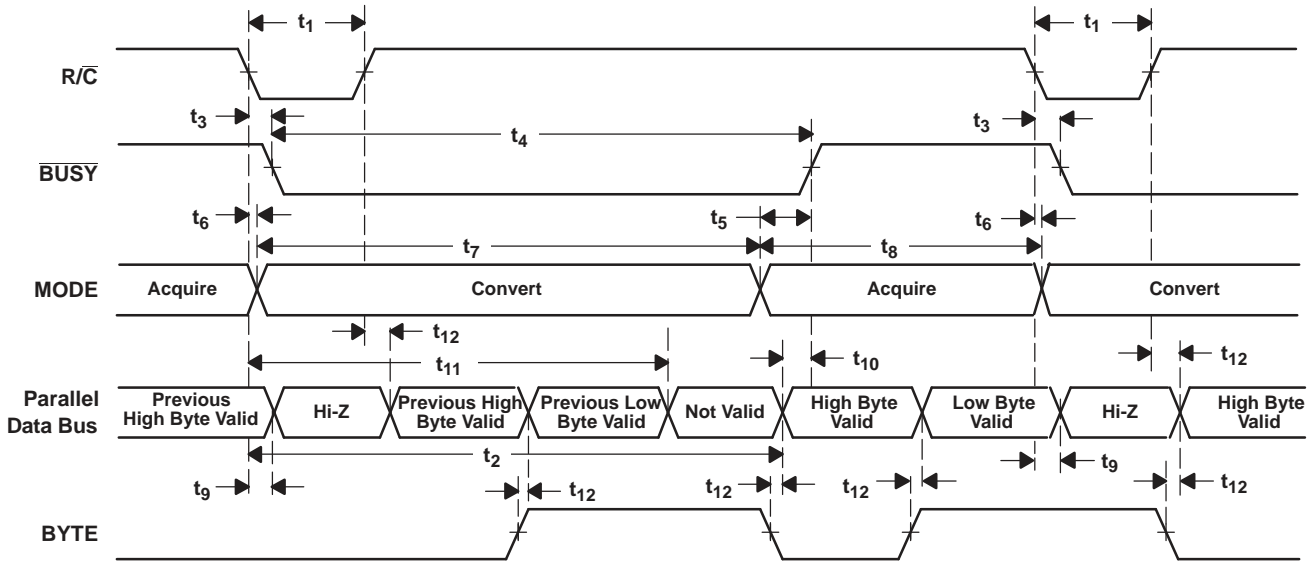
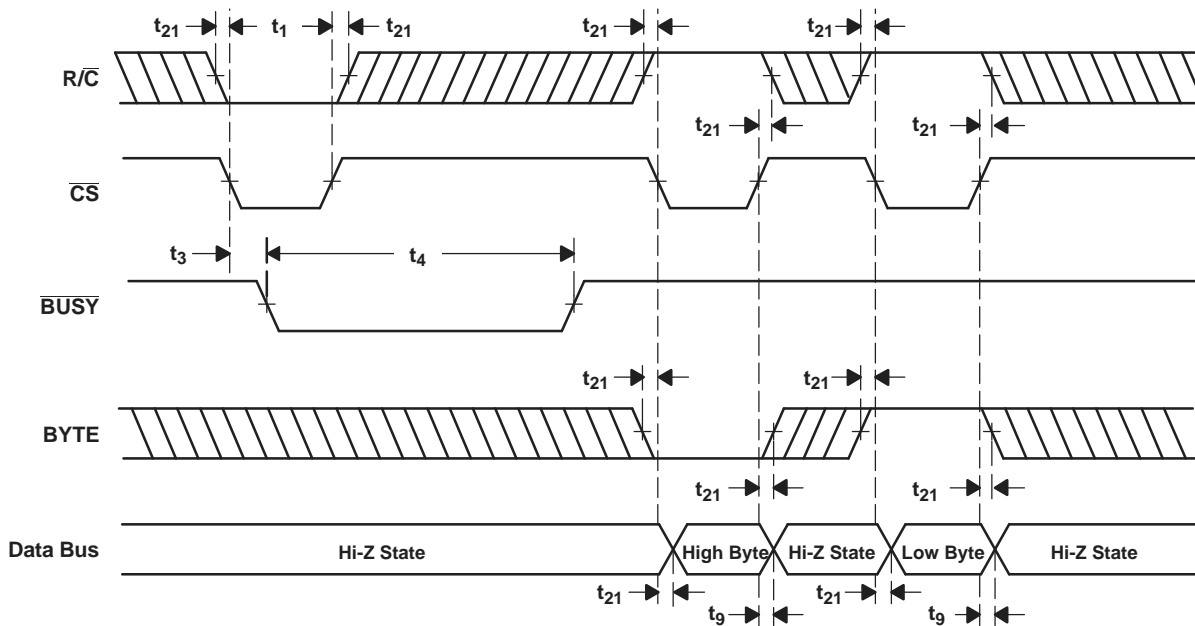

Figure 33. Conversion Timing With Parallel Output ($\overline{\text{CS}}$ and $\overline{\text{DATACLK}}$ Tied Low, $\overline{\text{EXT/INT}}$ Tied High)
Figure 34. $\overline{\text{CS}}$ to Control Conversion and Read Timing With Parallel Outputs
The ADS8506 begins tracking the input signal at the end of the conversion. Allowing 25 μ s between convert commands assures accurate acquisition of a new signal. Refer to Table 2 and Table 3 for a summary of \overline{CS} , R/\overline{C} , and \overline{BUSY} states, and Figure 33, Figure 34, Figure 35, Figure 36, Figure 37, Figure 38, and Figure 39 for timing diagrams.
(1) See Figure 33 and Figure 34 for constraints on data valid from conversion $N-1$.
After conversion *N* is completed and the output registers have been updated, $\overline{\text{BUSY}}$ (pin 24) goes high. Valid data from conversion *N* is available on D7-D0 (pin 9-13 and 15-17). $\overline{\text{BUSY}}$ going high can be used to latch the data. Refer to Table 5 and Figure 33 and Figure 34 for timing specifications.
After conversion N has been initiated, valid data from conversion $N-1$ can be read and is valid up to $12\ \mu\text{s}$ after the start of conversion N . Do not attempt to read data beyond $12\ \mu\text{s}$ after the start of conversion N until $\overline{\text{BUSY}}$ (pin 24) goes high; this may result in reading invalid data. Refer to Table 5 and Figure 33 and Figure 34 for timing constraints.